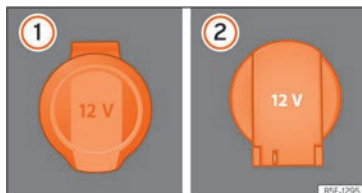

Fig. 150 12 volt power socket: ① inside the front armrest, ② in the luggage compartment.
- Lift the power socket cover »» **Fig. 150 ①**.
- Lift the power socket cover »» **Fig. 150 ②**.